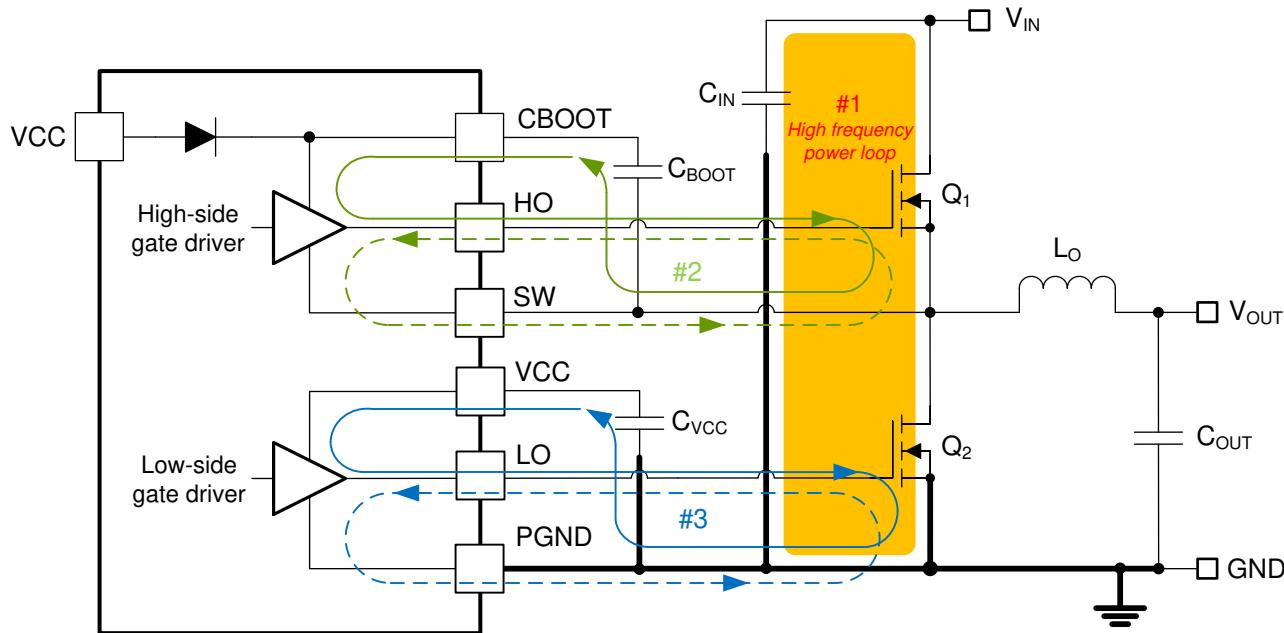

図 9-35. DC/DC Regulator Ground System With Power Stage and Gate Drive Circuit Switching Loops
Proper PCB design and layout is important in a high-current, fast-switching circuit (with high current and voltage slew rates) to achieve a robust and reliable design. As expected, certain issues must be considered before designing a PCB layout using the LM25148-Q1. The high-frequency power loop of a buck regulator power stage is denoted by loop 1 in the shaded area of 図 9-35. The topological architecture of a buck regulator means that particularly high di/dt current flows in the components of loop 1, and reducing the parasitic inductance of this loop by minimizing the effective loop area becomes mandatory. Also important are the gate drive loops of the high-side and low-side MOSFETs, denoted by 2 and 3, respectively, in 図 9-35.
- Loop 1: The most important loop area to minimize is the path from the input capacitor or capacitors through the high- and low-side MOSFETs, and back to the capacitor or capacitors through the ground connection. Connect the input capacitor or capacitors negative terminal close to the source of the low-side MOSFET (at ground). Similarly, connect the input capacitor or capacitors positive terminal close to the drain of the high-side MOSFET (at VIN). Refer to loop 1 of 図 9-35.
- The SW pin connects to the switch node of the power conversion stage and acts as the return path for the high-side gate driver. The parasitic inductance inherent to loop 1 in 図 9-35 and the output capacitance ( $C_{oss}$ ) of both power MOSFETs form a resonant circuit that induces high frequency (greater than 50 MHz) ringing at the SW node. The voltage peak of this ringing, if not controlled, can be significantly higher than the input voltage. Make sure that the peak ringing amplitude does not exceed the absolute maximum rating limit for the SW pin. In many cases, a series resistor and capacitor snubber network connected from the SW node to GND damps the ringing and decreases the peak amplitude. Provide provisions for snubber network
- Loop 2: high-side MOSFET, Q1. During the high-side MOSFET turn-on, high current flows from the bootstrap (boot) capacitor through the gate driver and high-side MOSFET, and back to the negative terminal of the boot capacitor through the SW connection. Conversely, to turn off the high-side MOSFET, high current flows from the gate of the high-side MOSFET through the gate driver and SW, and back to the source of the high-side MOSFET through the SW trace. Refer to loop 2 of 图 9-35.
- Loop 3: low-side MOSFET, Q2. During the low-side MOSFET turn-on, high current flows from the VCC decoupling capacitor through the gate driver and low-side MOSFET, and back to the negative terminal of the capacitor through ground. Conversely, to turn off the low-side MOSFET, high current flows from the gate of the low-side MOSFET through the gate driver and GND, and back to the source of the low-side MOSFET through ground. Refer to loop 3 of 图 9-35.